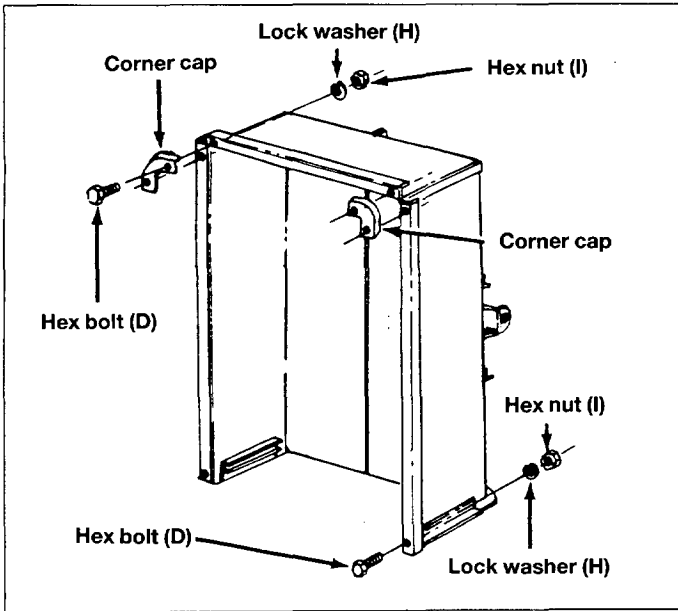

Fig. 10
15. Assemble two front top corner caps and two bolts in top flanges through tailgate reinforcement bracket using 1/4" x 1/2" (6 x 12 mm) hex bolts (D), lock washers (H) and hex nuts (I). See figure 10.